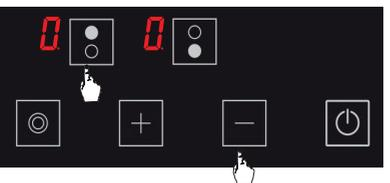

Figure 18
2. Press upper hob selection key (⏻) and minus key (⏪) simultaneously. (see Fig. 18) You shall hear a short warning signal at this time. Then, remove your fingers from the stove control panel.